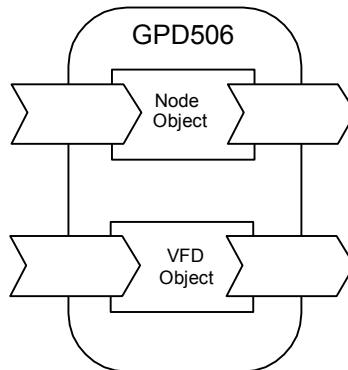

Figure 7. LonMark Objects
This interface uses LonMark objects to communicate on a LonWorks network, as defined in the LonMark functional profile for Variable Speed Motor Drives (6010). Two objects are implemented - the Node Object (0) and the Variable Frequency Drive Object (1), as illustrated in **Figure 7**.